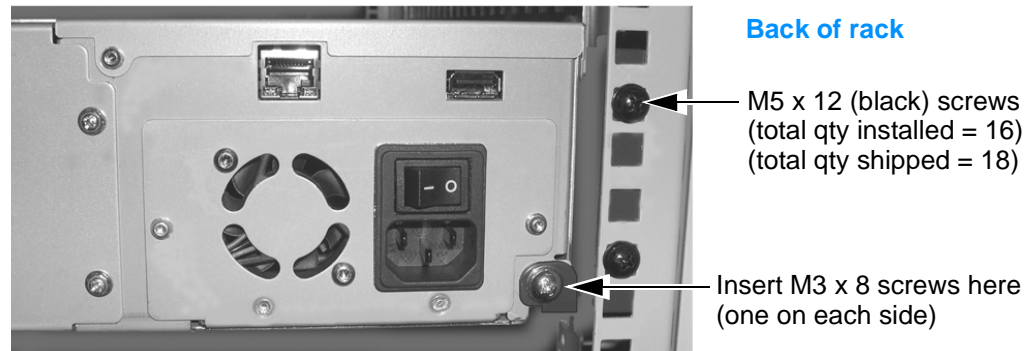

Figure 2-5 Attaching the library to the rails at the back of the rack
2. Remove the shipping lock from the library (if it is still installed). Carefully slide the library all the way back until it makes contact with the small flanges at the back of the rails (see Figure 2-5).